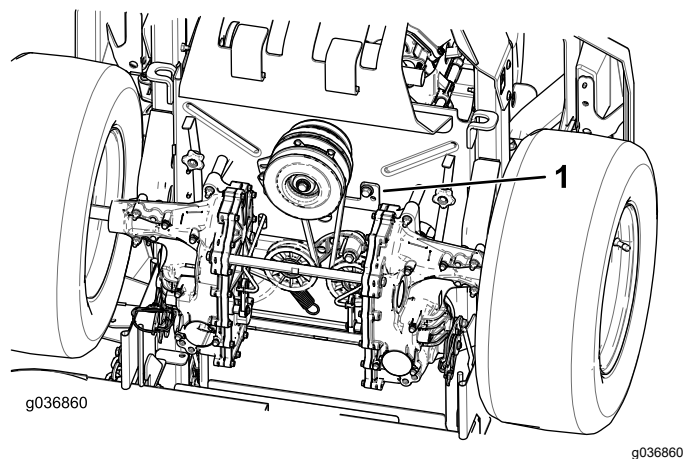

Figure 56
- Remove the clutch stop (Figure 56).
9. Install the clutch stop (Figure 56).